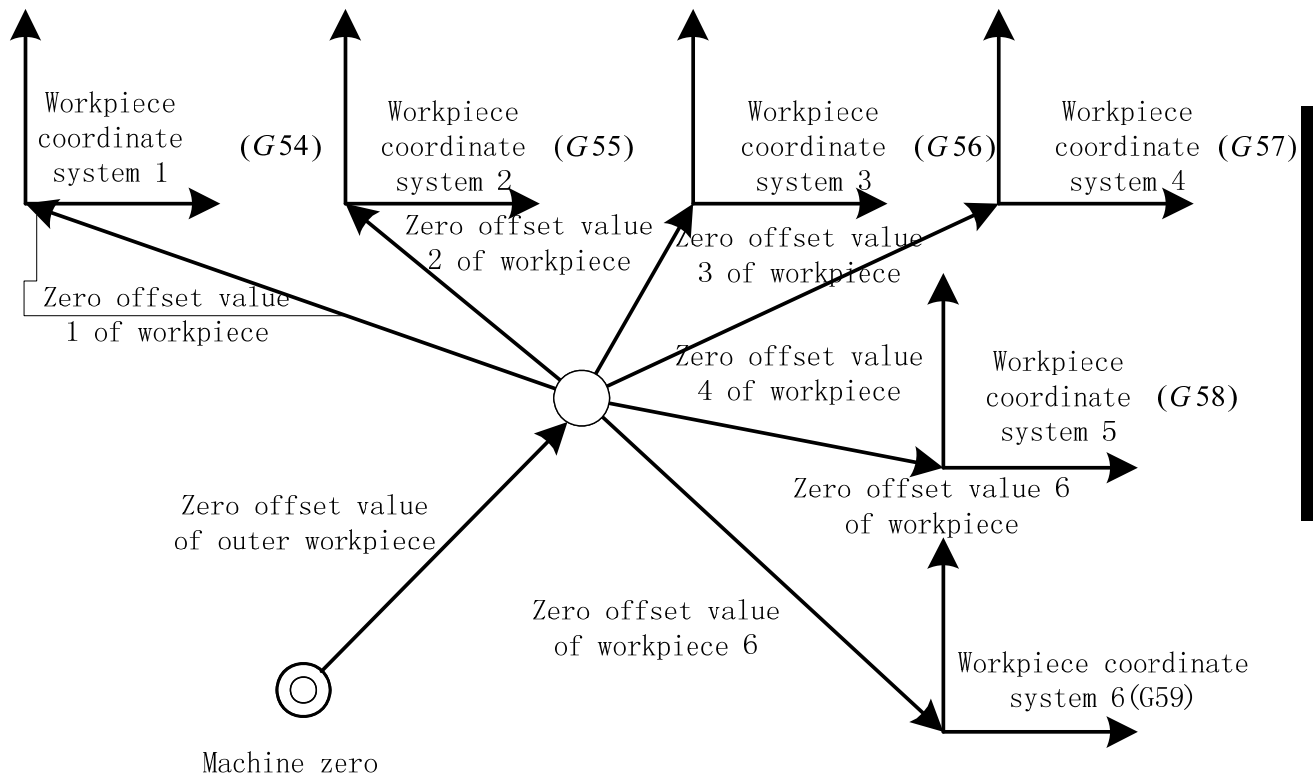

Fig. 3-19
- (1) The workpiece is created after the system is turned on and executes the reference point return. When the system is turned on, it automatically selects G54 as the current workpiece coordinate system;
- (2) G54-G59 describing the 6 workpiece coordinate systems can change their positions by the external workpiece zero offset value or workpiece zero offset value, and their relationship is as Fig. 3-19;